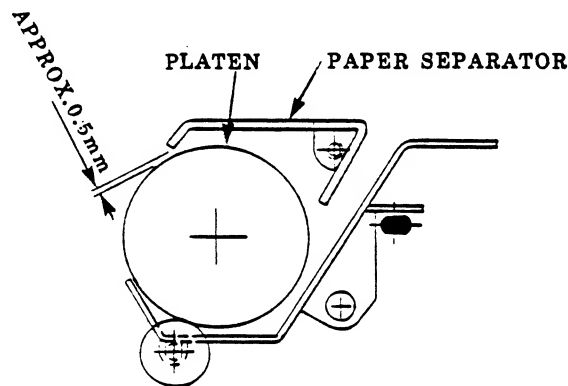

Figure 4-8. Platen/Paper Separator Adjustment
- Move the carriage shaft forward or backward until the gap between the platen and print head is between 0.45 and 0.5 mm, as illustrated in Figure 4-8.
- Measure a clearance of approximately 0.5mm between the platen and the paper separator, as illustrated in Figure 4-8. Then tighten the paper separator screws.